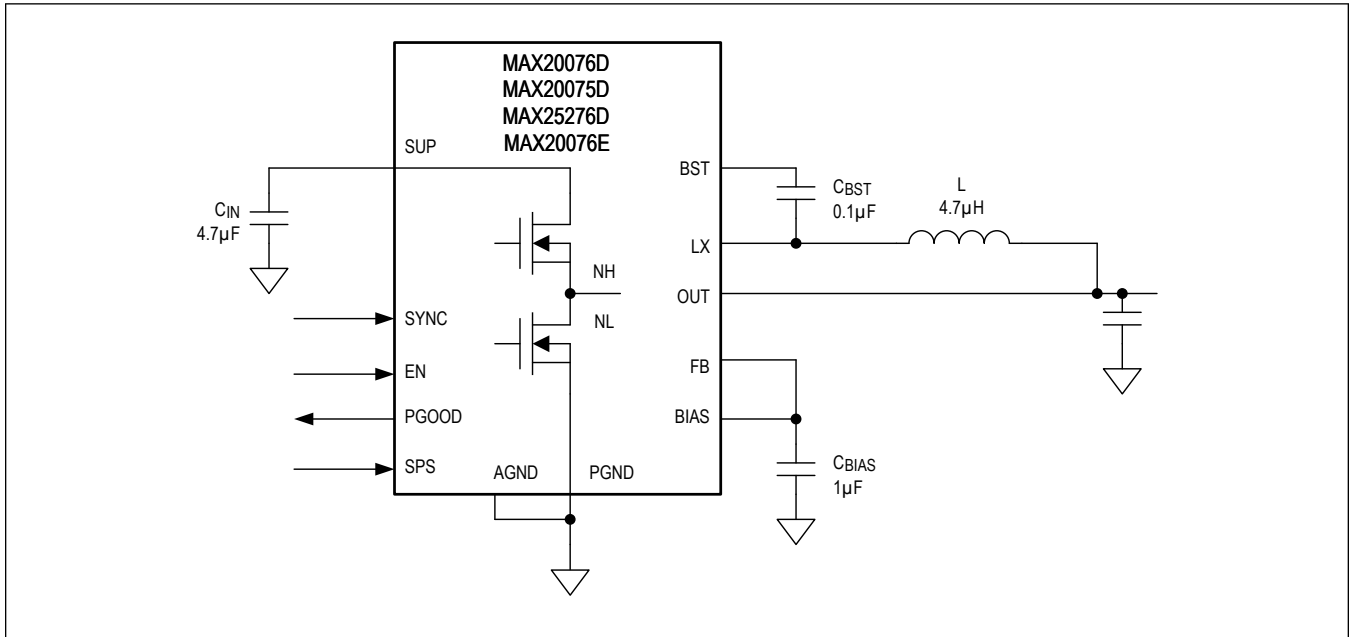
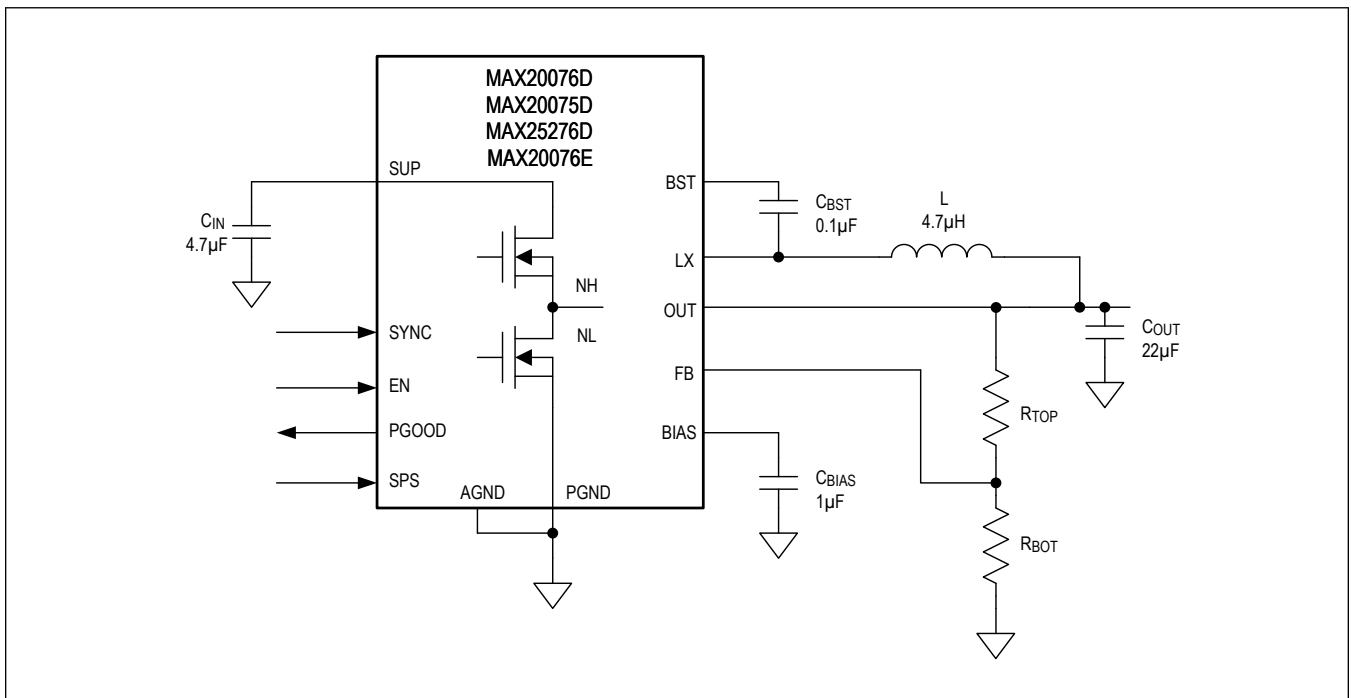

Figure 2. MAX20075D/MAX20076D/MAX20076E/MAX25276D Application Circuit with Fixed Output Voltage
Figure 3. MAX20075D/MAX20076D/MAX20076E/MAX25276D Application Circuit with External Resistor-Divider to Set Output Voltage
1. The input capacitor (4.7µF, see Figure 2 and Figure 3) should be placed right next to the SUP pin. Since the MAX20075D/MAX20076D/MAX25276D operate at 2.1MHz switching frequency, this placement is critical for effective decoupling of high-frequency noise from the SUP pins.